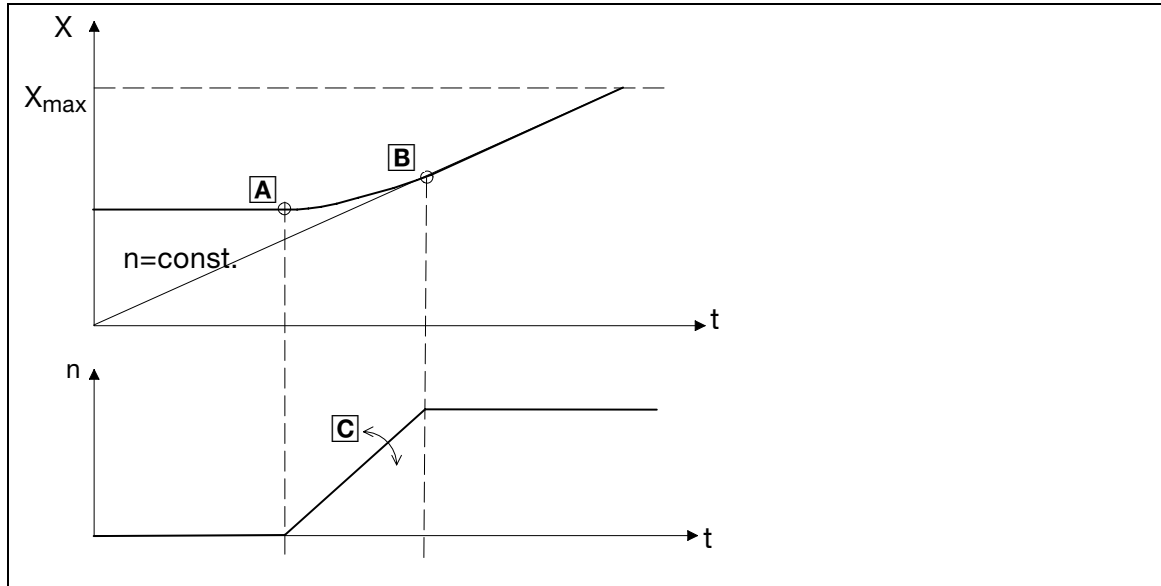

Fig. 3-60 Transition characteristic of a cam drive when engaging the clutch and then running synchronously
In Fig. 3-60, [A] the catching-up process is started. The distance required at this time (CLUTCH2-DIST) is calculated from the following parameters:
- Ramp gradient, code C1412/5 (see Fig. 3-60, [C])
CLUTCH2-DIST is available at the output of the function block and is a measure for the distance still to be caught up. If CLUTCH2-DIST = 0, the clutch can be closed (CLUTCH2-CLOSE = HIGH) due to the synchronous behaviour of both drives (Fig. 3-60, [B]).